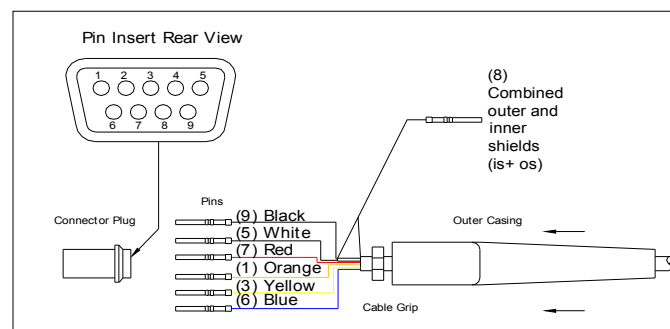

Fig 2.1
11. Insert pins into correct locations (as shown in fig 2.1) and push firmly into place.